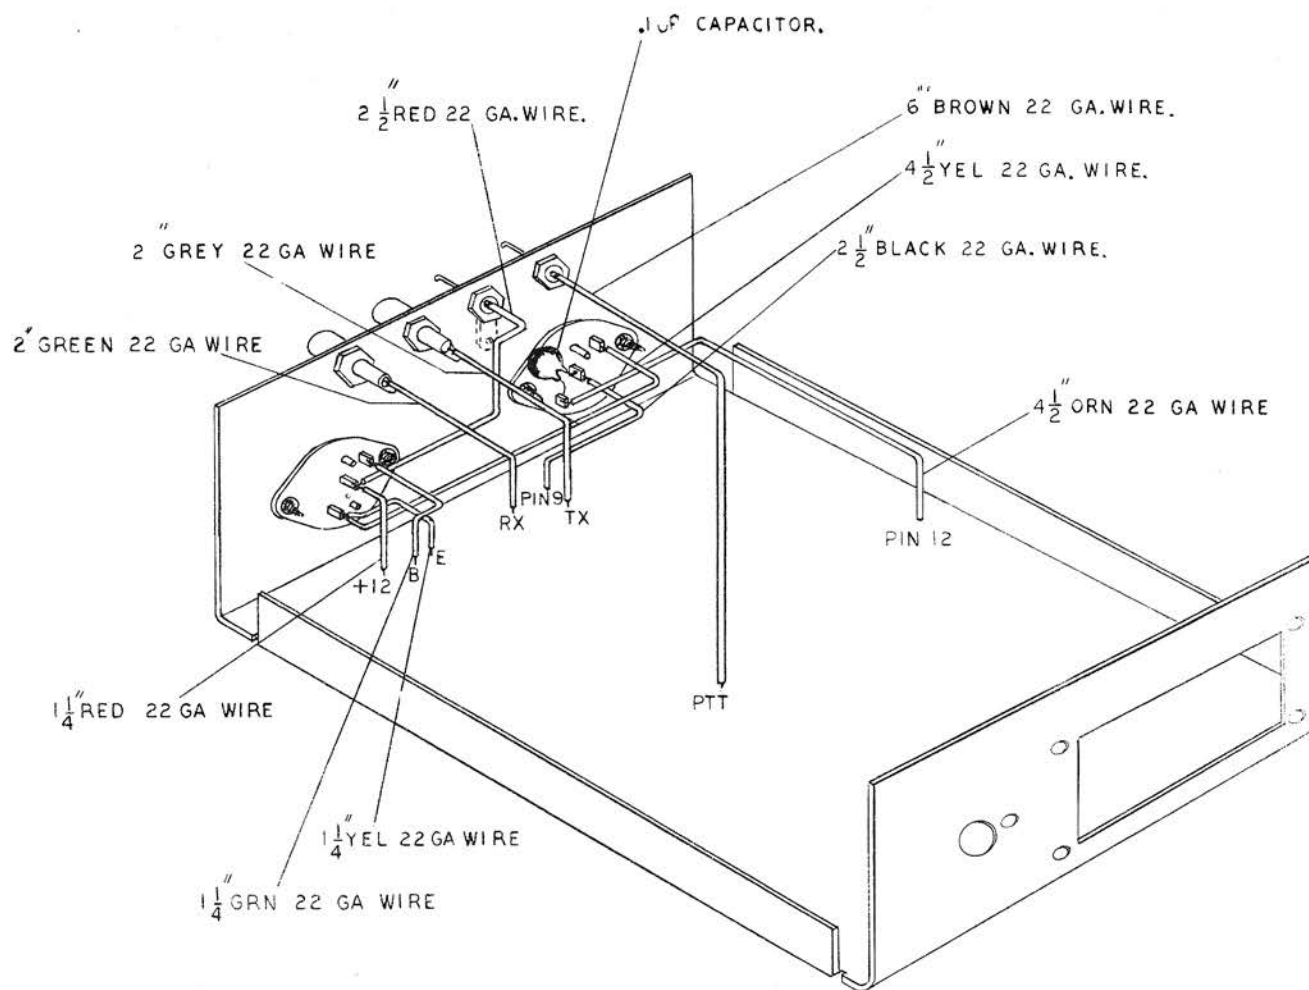

FIG 7
- a.) Cut and strip the lengths of wire as shown in Figure 7 below.
a.) Mount the PC board using the 4-40 hardware as shown in Figure 7 below.